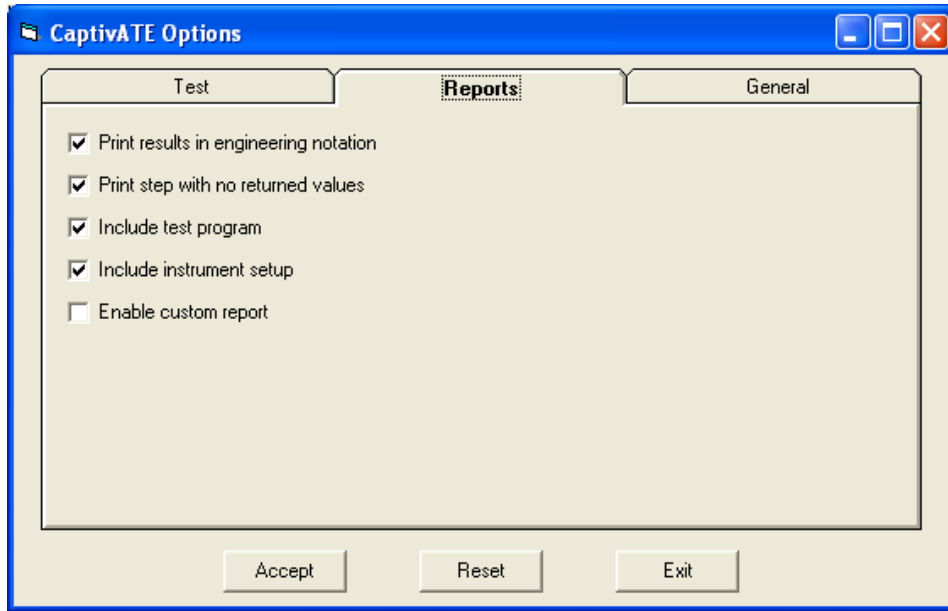

Figure 83 Tools Options: Software Switches to Display Test Results
2. To generate a regular report that includes the maximum amount of data, see Figure 83. On the *Tools/Options/Reports* pop-up, check the two “Include . . .” checkboxes. (The two “Print. . .” checkboxes are checked by default.)